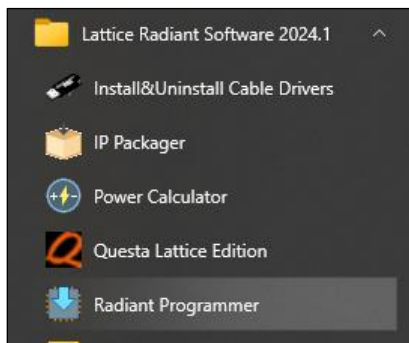

Figure 8.57. Launch Radiant Programmer from Windows Start
1. Launch the Lattice Programmer from Lattice Radiant as shown in Figure 8.57.